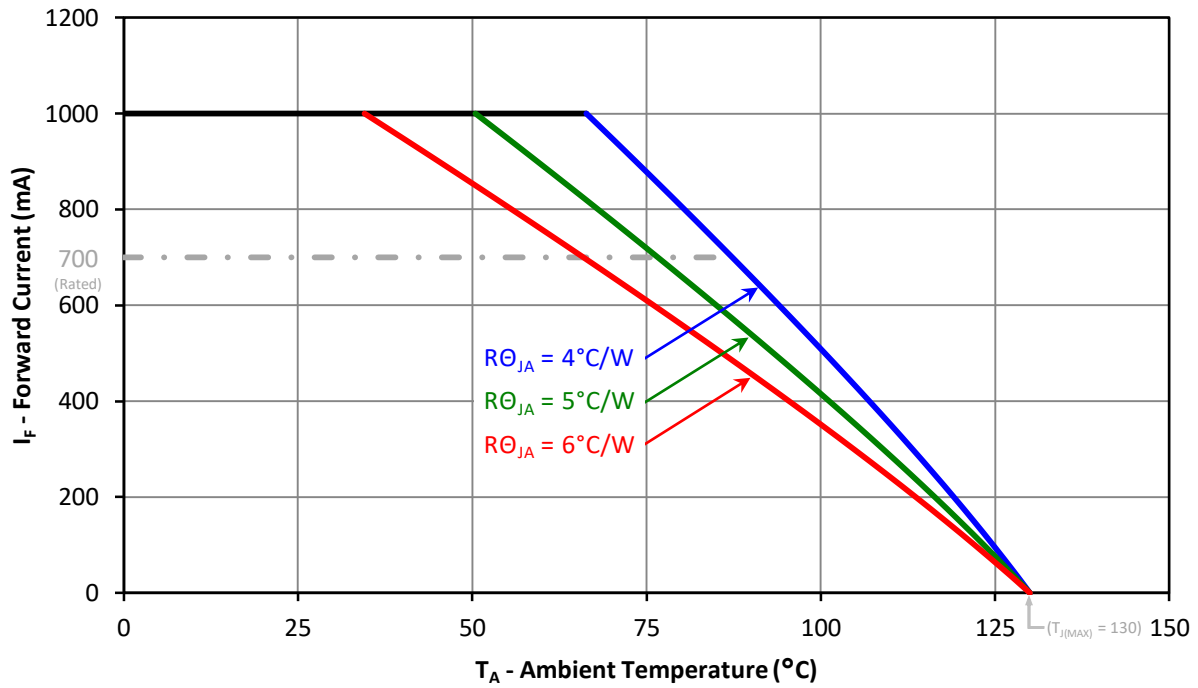

Figure 11: Maximum forward current vs. ambient temperature based on  $T_{J(\text{MAX})} = 130^\circ\text{C}$
- Maximum DC forward current is determined by the overall thermal resistance and ambient temperature. Follow the curves in Figure 11 for current derating.